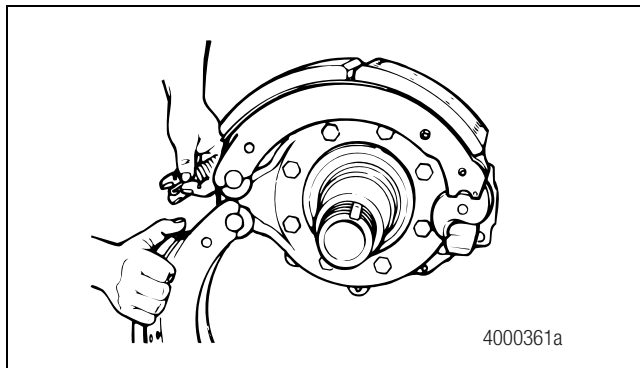

Figure 5.18
2. Place the upper brake shoe into position on the top anchor pin. Hold the lower brake shoe on the bottom anchor pin. Install two new brake shoe retaining springs. Figure 5.18.